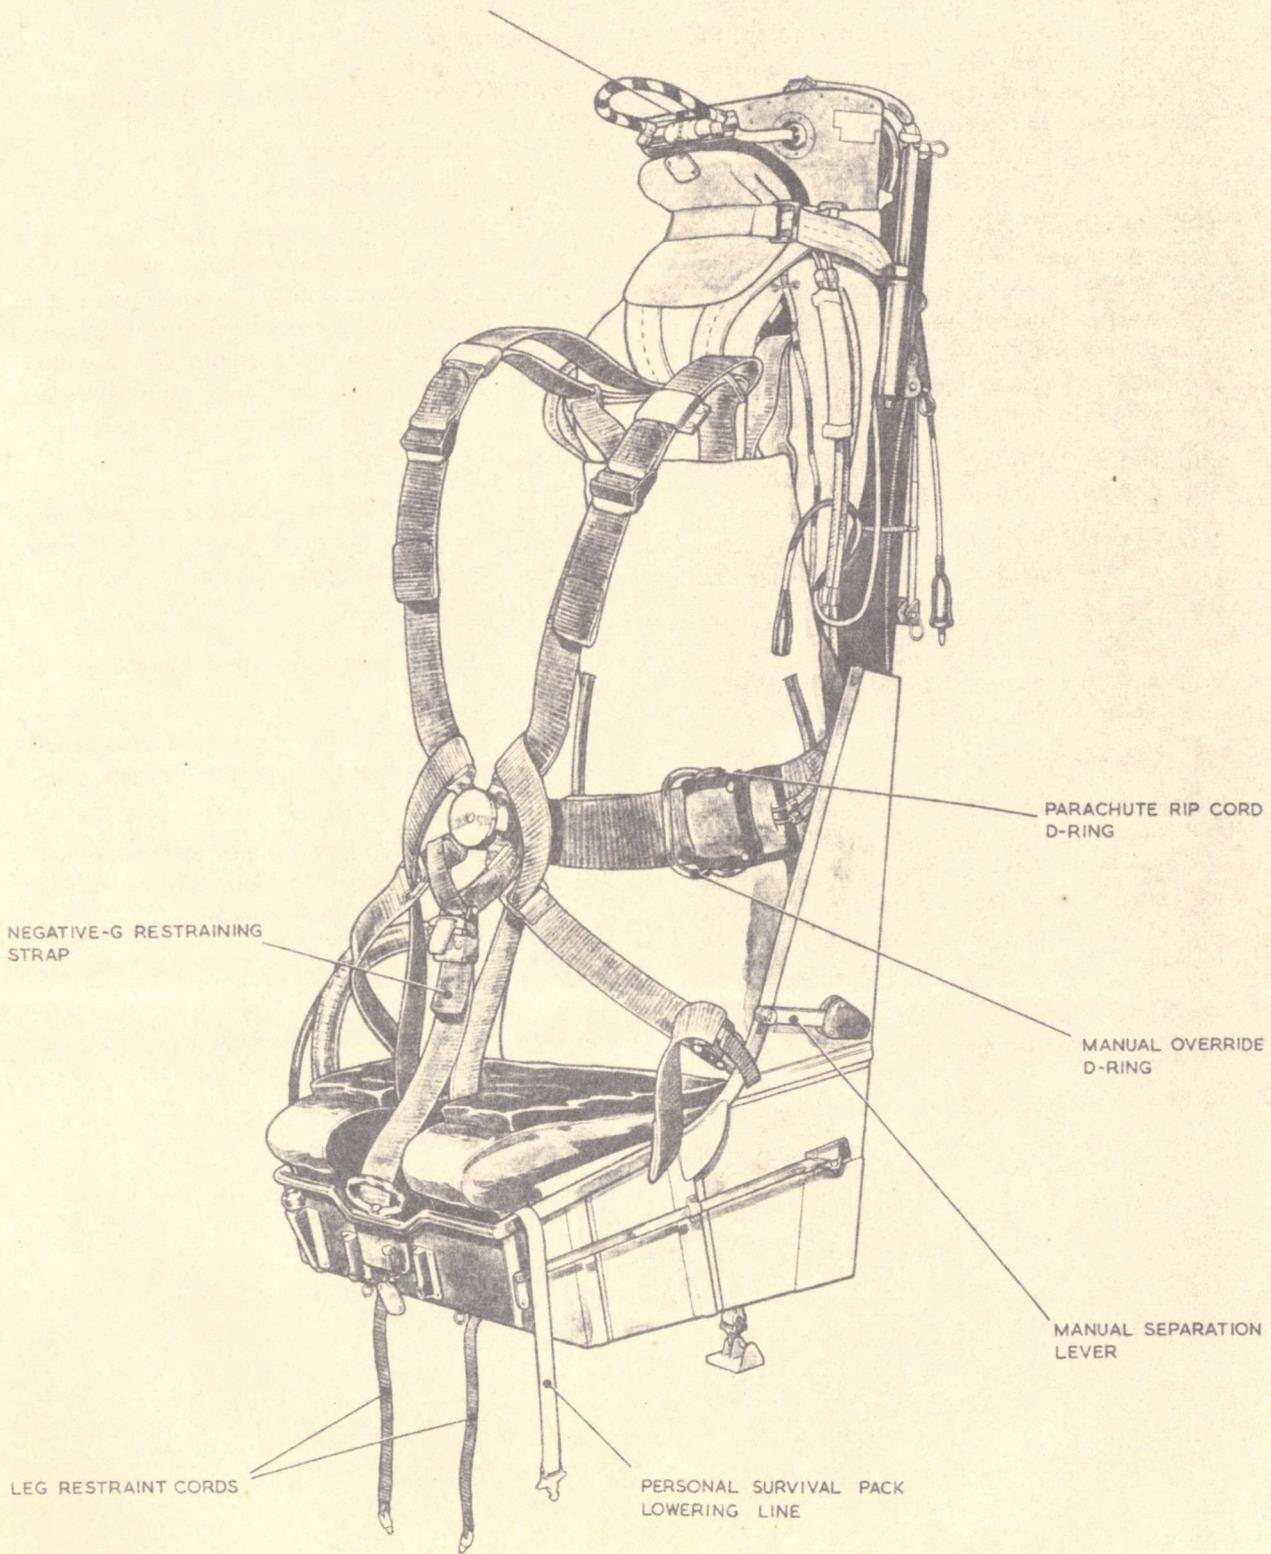

Fig. 1. The seat equipped (port)
16. The following procedure is to be adopted, referring to fig. 1 to 7 as necessary:—